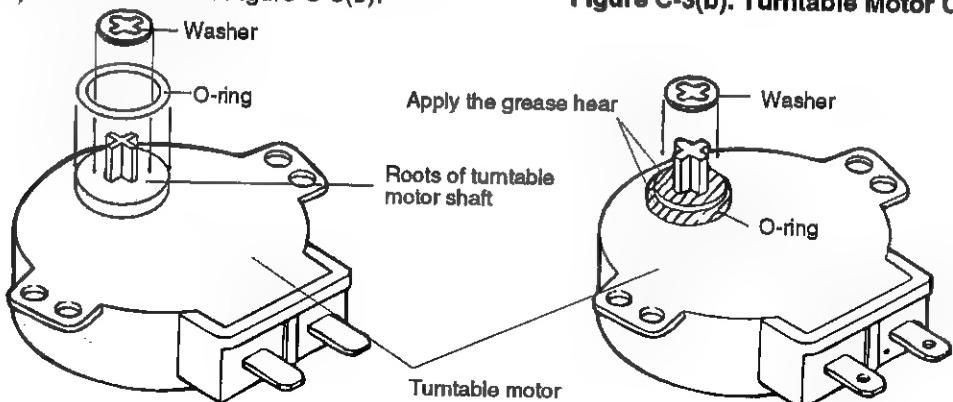

Figure C-4. Washer and O-ring Installation and Grease Applying.
4. Apply the grease (Shinetsu silicone grease G-420 of Sinetsu Chemical Co. Ltd. or Toray Silicone grease SH-14 of Toray Silicone Co., Ltd.) to the O-ring and the roots of the turntable motor shaft as shown in Figure C-4.
5. Re-install the turntable motor with the O-ring and washer to the oven cavity with the single (1) screw.